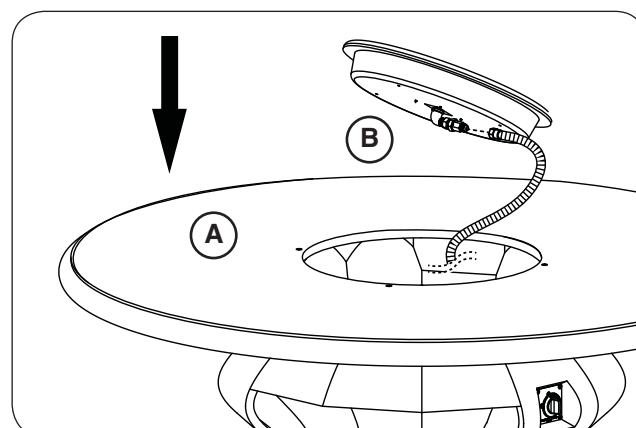

Fig. 20-4 Place burner and connect flex
6. Drop the burner assembly into the opening in the center of the firetable top (see Fig. 20-4, A).
7. Locate the flex connector (marked OUT) that is coming off the valve assembly. Route it to the connection found on the underside of the burner assembly and connect. Tighten securely. See Fig. 20-4, B.